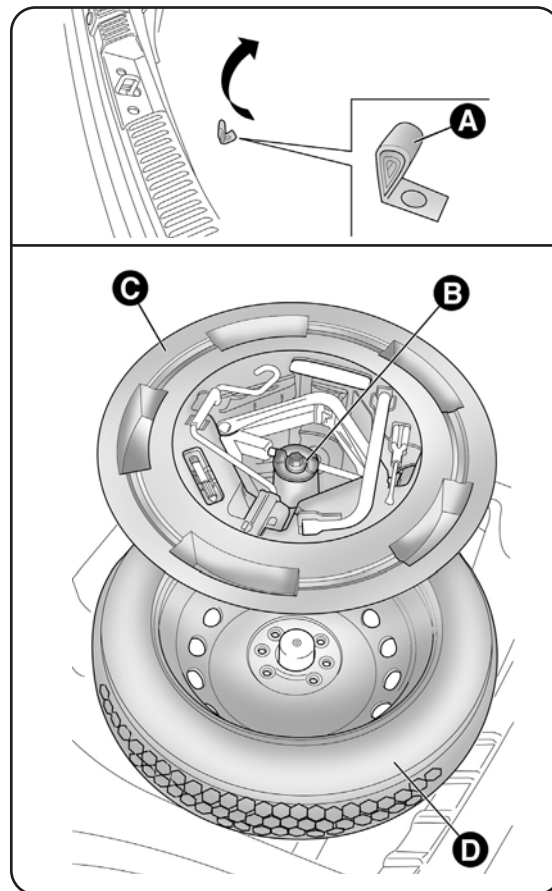

fig. 10
- open the luggage compartment, pull tab A-fig. 10 and lift up the mat;
- lift up the luggage compartment mat using handle A-fig. 10 (in the presence of a double load platform, first lift the upper cover and then the luggage compartment mat).
- loosen the fastener B-fig. 10;
- remove the small spare wheel D-fig. 10;
- in the presence of a double load compartment, lift the double compartment mat and attach it to the luggage compartment mat as shown in fig. 10.
- stow the small spare wheel D-fig. 10 in the space provided in the luggage compartment;
- stow the container, complete with tools, into the spare wheel and tighten the locking device B-fig. 10;